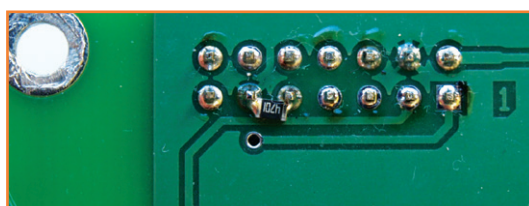

Figure 4. This resistor tells the firmware that the circuit has been modified as shown in Figures 1, 2 and 3.
- solder a 4.7 k $\Omega$  to 10 k $\Omega$  resistor between pins 9 and 11 of J17, on the opposite side of the PCB (**Figure 4**). The presence of this resistor will allow the firmware to detect the modified circuit.